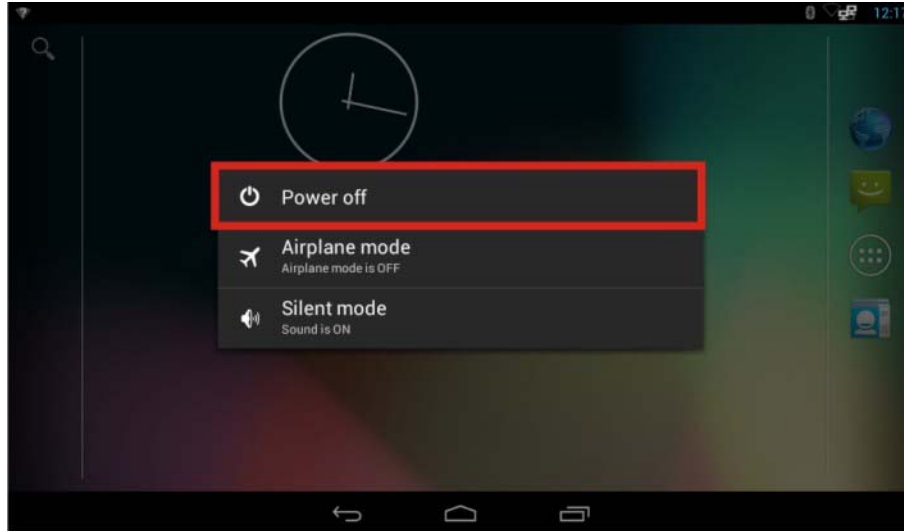

Figure 4-2: Power-off Menu
- Step 1:** Press and hold the power switch until the screen in **Figure 4-2** appears.